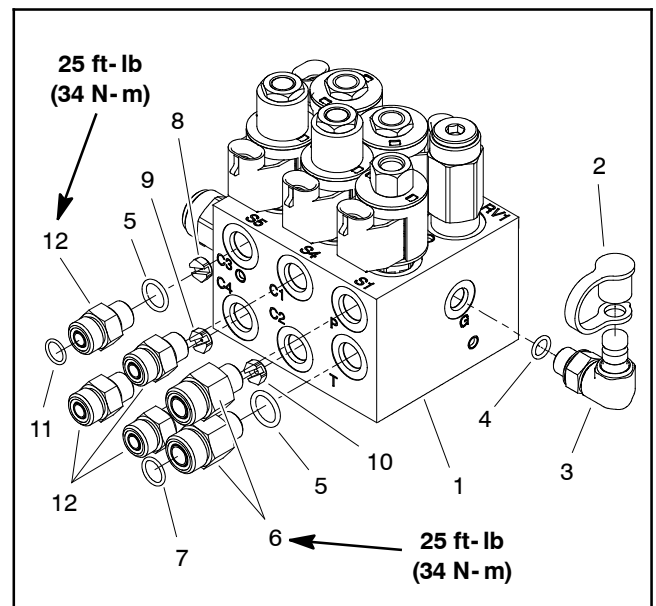

Figure 89
**IMPORTANT: A flow control orifice is placed beneath hydraulic fittings in lift control manifold ports C2, C3 and C4 (Fig. 89). If a fitting is removed from the lift junction manifold and an orifice is in the manifold port, make sure to remove orifice and label its position for assembly purposes. Also note location of groove in orifice for assembly purposes.**
8. If hydraulic fittings are to be removed from lift control manifold, mark fitting orientation to allow correct assembly (Fig. 89). Remove fittings from manifold and discard O-rings.
1. If fittings were removed from junction manifold, lubricate and place new O-rings onto fittings. Install fittings into manifold openings making sure that orifice is correctly placed before threading fitting into manifold. Tighten fittings (see Hydraulic Fitting Installation in the General Information section of this chapter). Refer to Figure 89 for fitting installation torque.